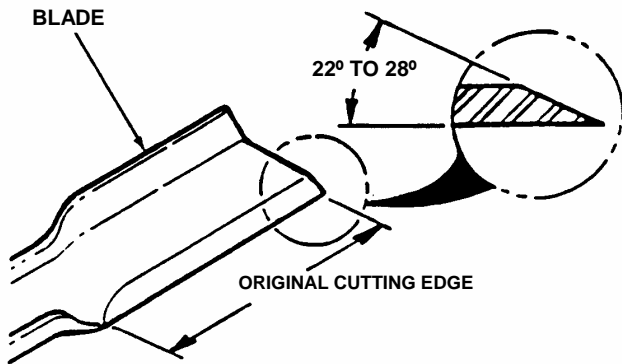

FIGURE 4.6
3. If blade is in good condition, sharpen at 22 to 28 degrees. DO NOT sharpen beyond existing cutting edge. See Figure 4.6.